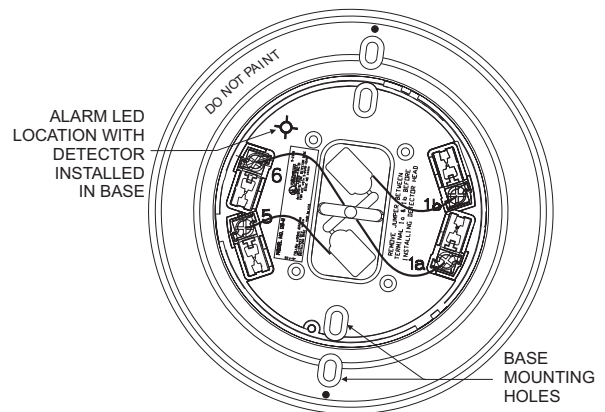

Figure 8
2. When the alarm LED viewing is critical, position the LED mark on the base in the intended direction (Refer to Figure 8).